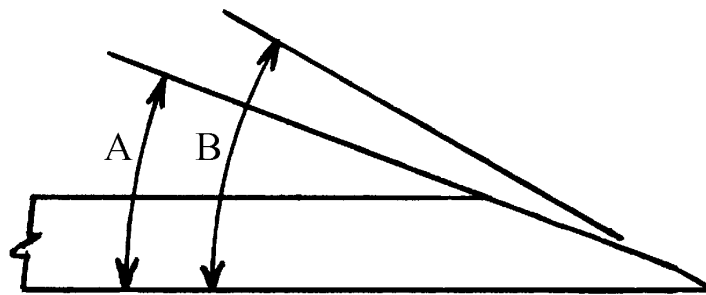

Fig.2
9. Figure 2 shows a smoothing plane cutting iron which has been prepared for planing softwood. State :-
- (A) The recommended grinding angle;